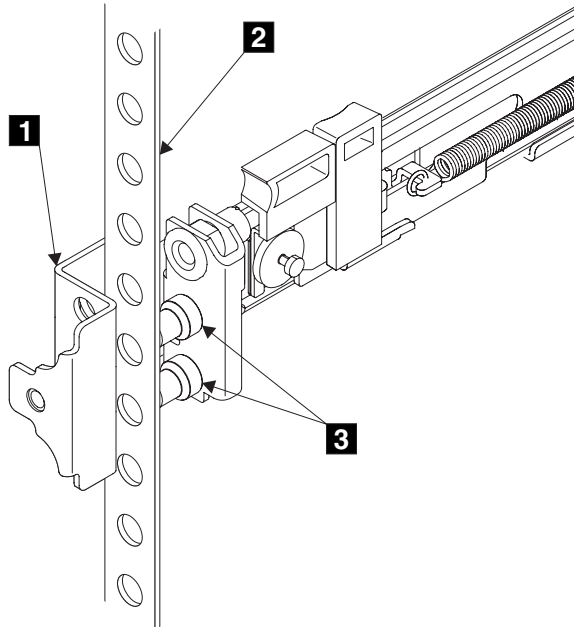

Figure 46. Installing the front end of the rail
6. Place the front end of the left rail in the rack cabinet. Align the top of the front bracket **1** (Figure 46) with the required EIA marking that is on the rack.